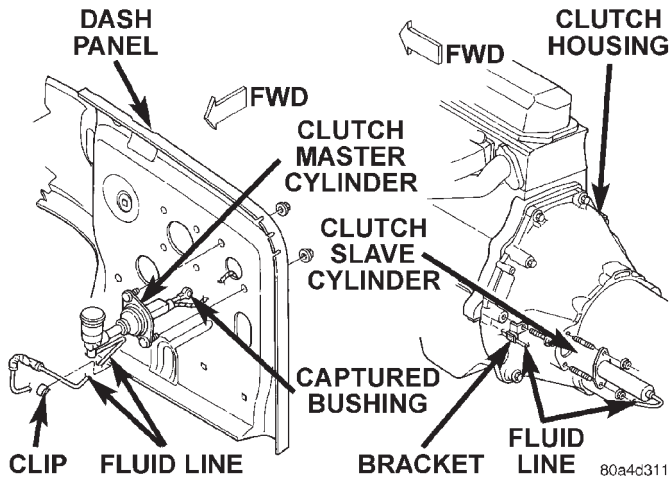
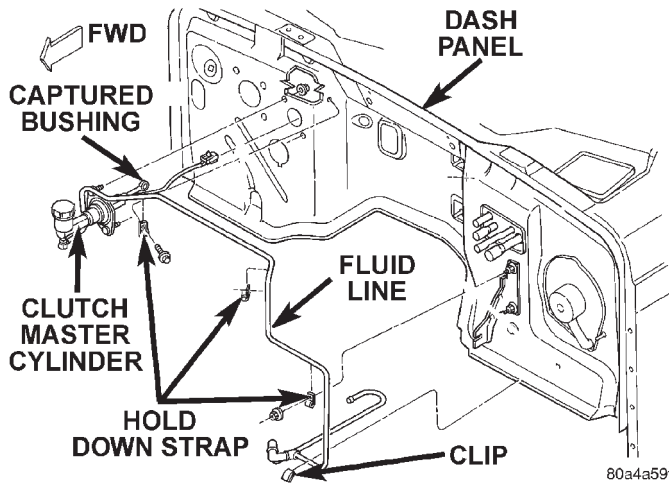

Fig. 9 Slave Cylinder and Left Hand Drive Clutch Master Cylinder
Fig. 10 Right Hand Drive Clutch Master Cylinder
(2) Remove fasteners attaching slave cylinder to clutch housing.
(3) Remove slave cylinder from clutch housing (Fig. 9).
(4) Disengage clutch fluid line from body clips.
(5) Lower vehicle.
(6) Verify that cap on clutch master cylinder reservoir is tight. This is necessary to avoid spilling fluid during removal.
(7) Remove clutch master cylinder attaching nuts (Fig. 9) or (Fig. 10).
(8) Disengage captured bushing on clutch master cylinder actuator from pivot pin on pedal arm.
(9) Slide actuator off pivot pin.
(10) Disconnect clutch interlock safety switch wires.
(11) Remove clutch hydraulic linkage through engine compartment.
(1) Be sure reservoir cover on clutch master cylinder is tight to avoid spills.
(2) Position clutch linkage components in vehicle. Work connecting line and slave cylinder downward past engine and adjacent to clutch housing (Fig. 9) or (Fig. 10).
- (3) Position clutch master cylinder on dash panel (Fig. 9) or (Fig. 10).
- (4) Attach clutch master cylinder actuator to pivot pin on clutch pedal.
- (5) Install and tighten clutch master cylinder attaching nuts to 38 N-m (28 ft. lbs.) torque.
- (6) Raise vehicle.
- (7) Insert slave cylinder push rod through clutch housing opening and into release lever. Be sure cap on end of rod is securely engaged in lever. Check this before installing cylinder attaching nuts.
- (8) Install and tighten slave cylinder attaching nuts to 23 N-m (17 ft. lbs.) torque.
- (9) Secure clutch fluid line in body and transmission clips.
- (10) Lower vehicle.
- (11) Connect clutch interlock safety switch wires.